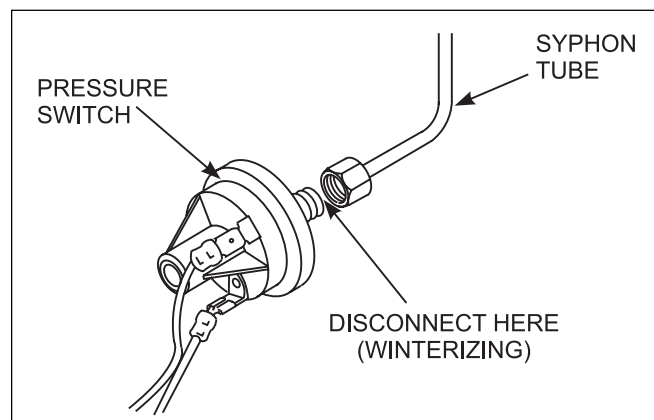

Figure 22. Pressure switch copper tubing
8. Disconnect the pressure switch from the siphon tube (copper tubing) (see Figure 22).
1. Attach the copper tubing to the pressure switch (see Figure 22).